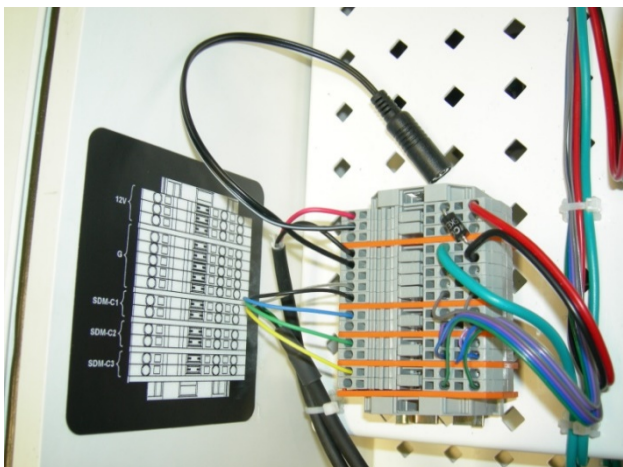

FIGURE F-4. Connections for the power supply in CPEC200 enclosure
5. Connect the pigtail connector to the DIN rail connectors as shown in (FIGURE F-4).